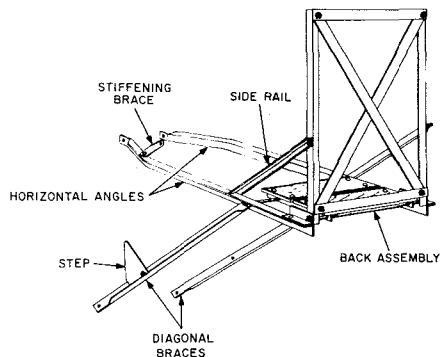

Fig. 1—Assembled B Terminal Balcony
2.03 The B terminal balcony (Fig. 1) is supplied collapsed into a compact unit with the two side rails, stiffening brace, and step disassembled, the two diagonal braces folded up, and the back assembly folded down against the two horizontal angles. The hardware listed in 2.04 for attaching the balcony to a pole is not furnished. Prepare the balcony for pole mounting as follows.
- (3) Two double-ended 5/8-inch bolts located under the wood pole seat join the two horizontal angles. Turn the four outer and four inner nuts on these bolts away from the horizontal angles to allow for free movement of the members when the balcony is mounted on the pole.
- (4) Attach the step to one of the diagonal braces with the 1/2-inch bolt and lockwasher also supplied. Position the step on the outside of the brace and the bolt head on the inside.
- (5) Attach the stiffening brace shown in Fig. 1 to the horizontal brace that will be on the side of the pole normally used for access to the balcony. Use the 3/8- by 1-inch carriage bolt, nut, and lockwasher supplied.